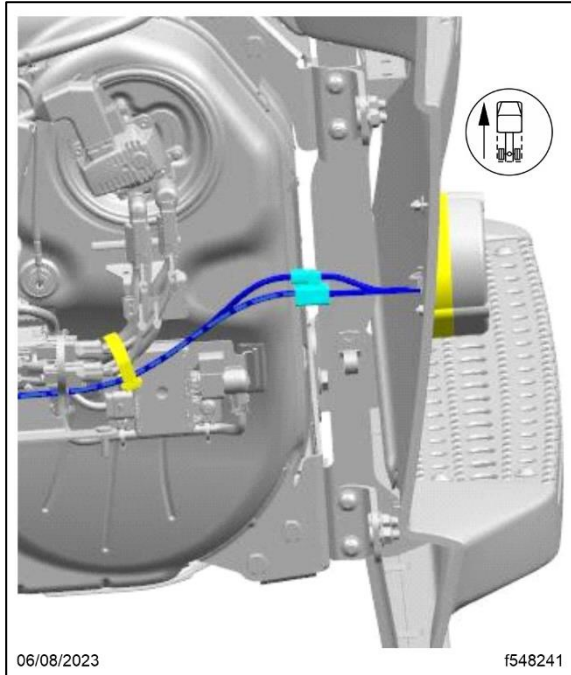
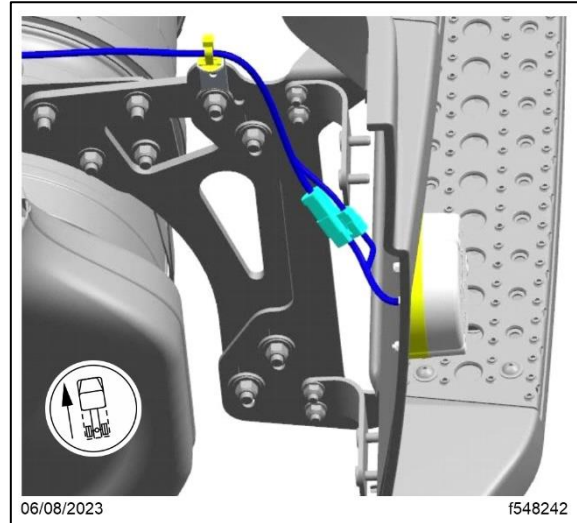
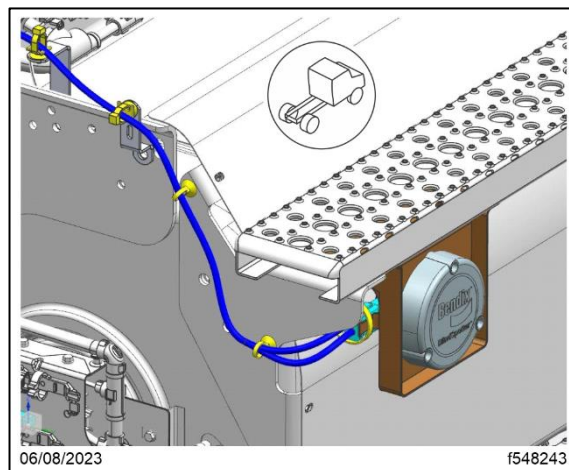

Fig. 1, New Cascadia Harness Routing Behind the Aftertreatment Device (ATD)
Fig. 2, New Cascadia Harness Routing Along Top of the Fairing Mounting Bracket
Fig. 3, New Cascadia Harness Routing with Steps
2. Locate the two chassis harness connectors for the BlindSpotter sensor. Connector location may vary depending on the vehicle options. Some examples of harness routings are shown in Fig. 1, Fig. 2, and Fig. 3.